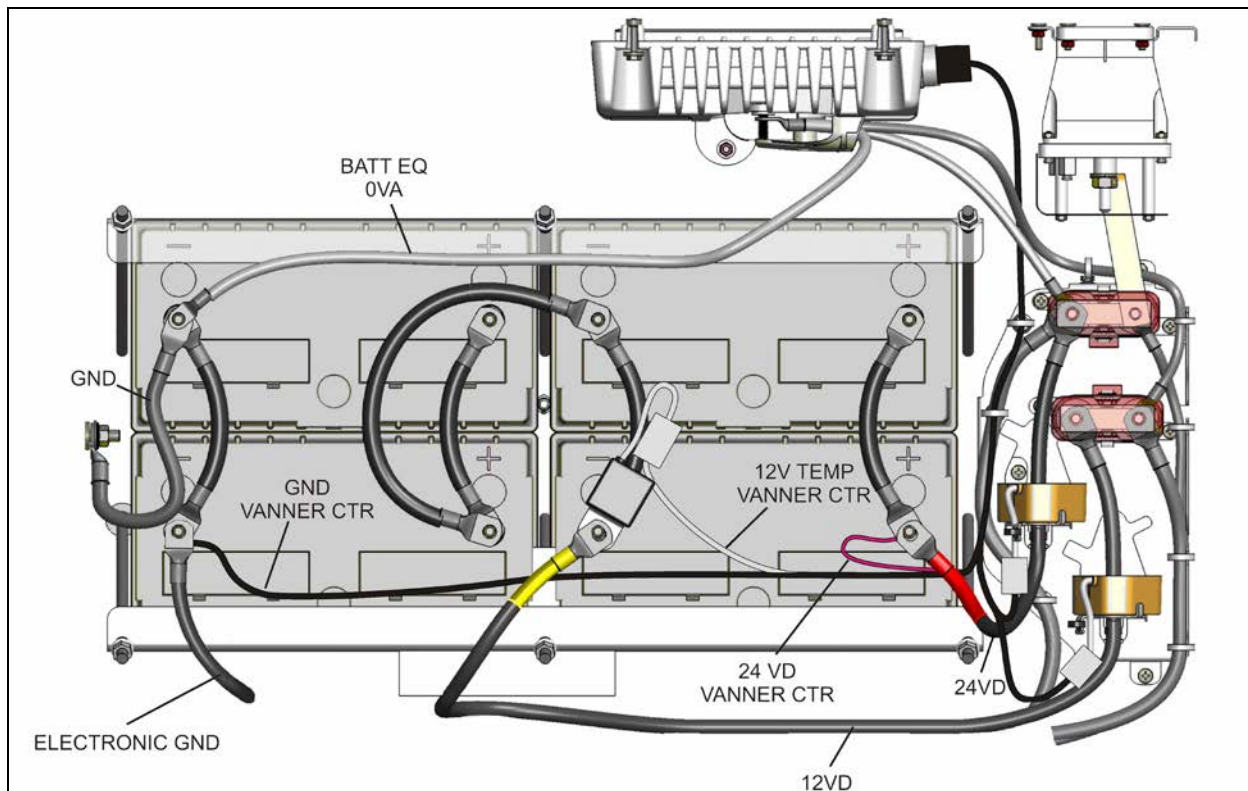

FIGURE 18: AGM BATTERY CONNECTIONS
If your vehicle is equipped with PRIME energy management system, it is provided with four (4) Absorbed Glass Mat (AGM) 12-volt batteries connected in series-parallel (Fig. 18).